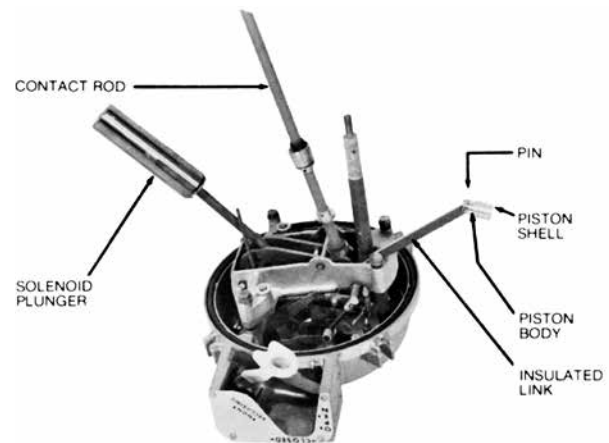

Figure 29. Removing pump piston
10. The pump piston can be removed if necessary by turning the outershell off the piston body. Then push out the pin that connects the body to the insulated link. See Figure 29.